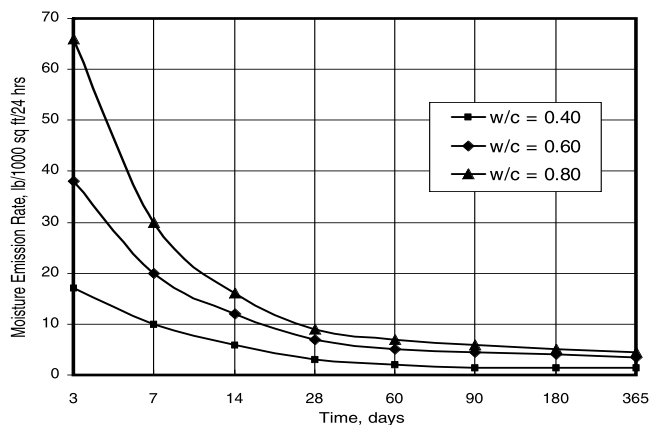

Figure 1 Drying rate of concretes sealed at the bottom (ref 3)
- Residual moisture in the slab from the original concrete mixing water will move towards the surface. It may take anywhere from six weeks to one year or longer for a concrete slab to dry to an acceptable level under normal conditions, as illustrated in Figure 1. Factors that affect the drying rate include the original water content of the concrete, type of curing, and the relative humidity and temperature of the ambient air during the drying period. This is the only source of moisture in elevated slabs. Any wetting of the slab after final curing will elevate moisture levels within the slab and lengthen the drying period.